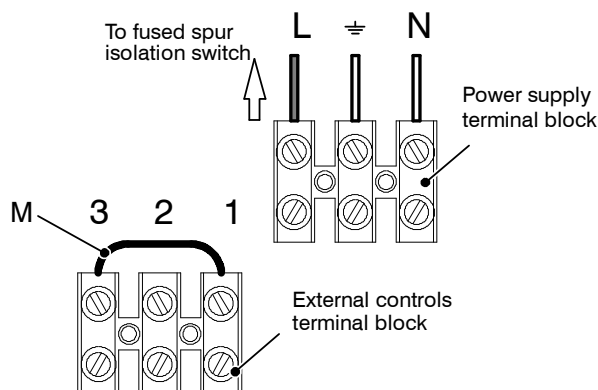

Fig. 6.12
- 6 Connect the electrical supply flexible cord coming from the fused spur isolation switch to the power supply terminal block of the boiler (Fig. 6.12) keeping the same connections for the live (brown wire) and the neutral (blue wire). External 3 A fuse or fused plug with same current rating is recommended.
When connecting any type of external control, the link M in Fig. 6.12 must be removed.